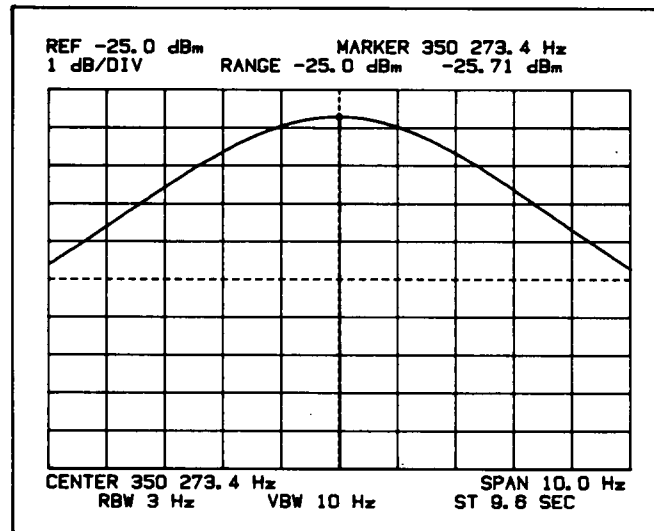

Figure 5-25. IF Adjustment Display #2
- s. Repeat the previous two steps until the A trace is symmetrical and equal to the amplitude of the B trace. (See Figure 5-25.)